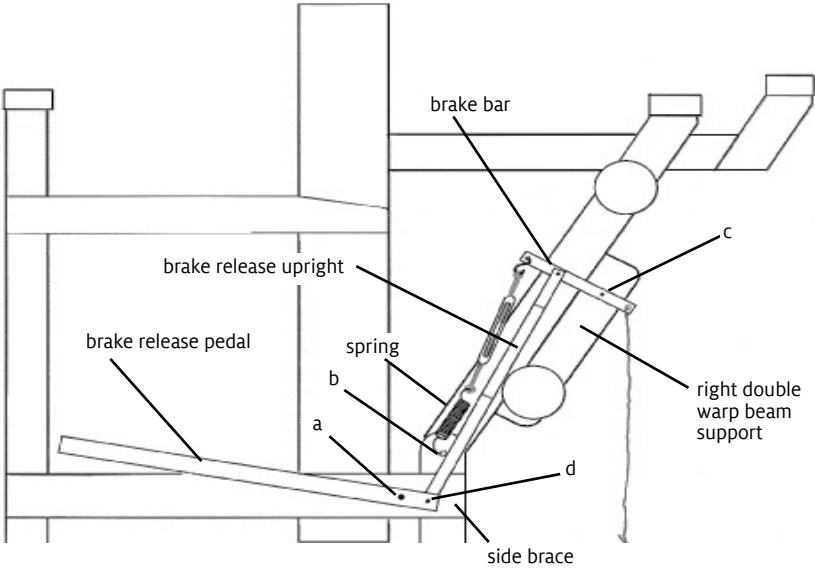

FIGURE 4
**ATTACH THE BRAKE RELEASE SYSTEM (FIGURES 4 AND 5)**
9. Place a 1/2" washer on the 1/2" x 2-1/2" hex head bolt, and insert the bolt through hole (a) in figure 4 in the right (as viewed from the rear) side brace from
**10.** Remove the carriage bolt at (b) in figure 4 and replace it from the outside to the inside of the loom with the 5/16" x 2-1/4" carriage bolt provided. Tap the new bolt into place by aligning the square hole in the wood with the square shaft of the carriage bolt. Place a 1/4" washer and a regular (not locking) hex nut on the carriage bolt. Tighten the nut all the way until the carriage bolt head is drawn into the wood, then loosen the nut three-quarters of a turn, allowing the rear leg to pivot easily.
### INSTALL THE BRAKE (FIGURES 4 AND 5)
**15.** Put a 1/4" washer on the carriage bolt at (b) in figure 4. Place the bottom loop of the brake spring over the bolt at (b) followed by another 1/4" washer. Add a lock nut to the bolt and tighten the nut enough to keep the spring in place, while still allowing it to pivot freely.